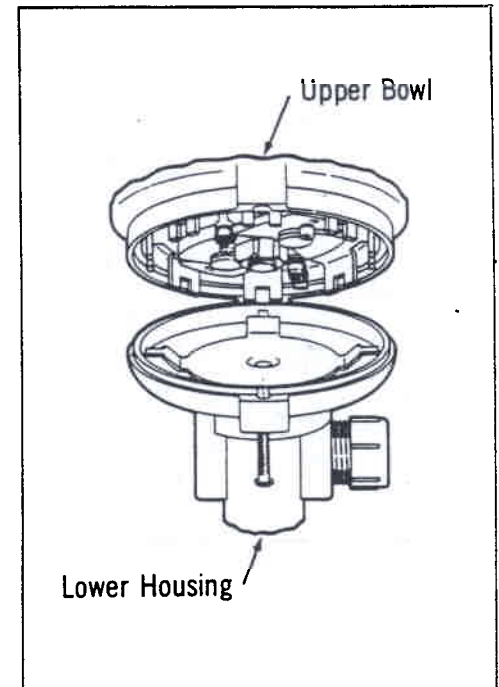

Fig. 4
3. Disconnect wiring from the ignition coil or ignition module to remove the present distributor. With the rotor installed, place the new distributor in the engine with the rotor pointed towards the same fixed reference point as the removed distributor. Distributor advance mechanism is designed so the rotor can be relocated in 45° intervals. See Figure 4.
6. Reattach the upper bowl to the lower shaft housing. Be sure that the tangs in the lower assembly mesh properly with the tangs in the distributor bowl and check for rotor position. Install the two screws (Figure 4).